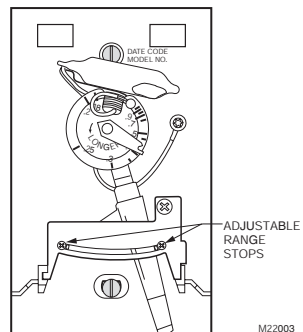

Fig. 8. Set adjustable range stops.
1. The T822 Thermostat comes equipped with adjustable range stops (see Fig. 8). The range stops are factory set to allow for maximum adjustment of the temperature lever. If you choose to limit the adjustment of the temperature lever, set range stops to your desired setting.
Temperature lever cannot be set to the highest and/or lowest setting on the temperature scale.	<ul style="list-style-type: none"> • Adjust temperature range stops (see Fig. 8).